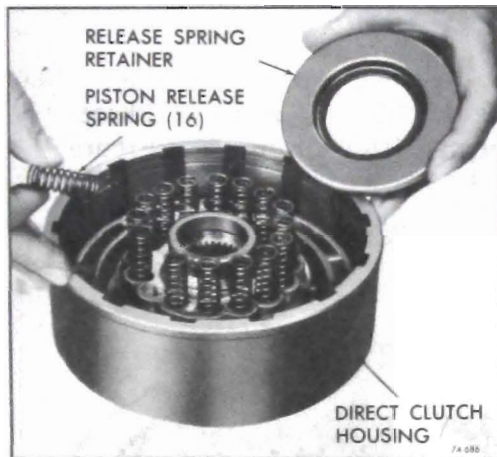

Figure 76-687
5. Install sixteen (16) springs into the piston. See Figure 76-687.